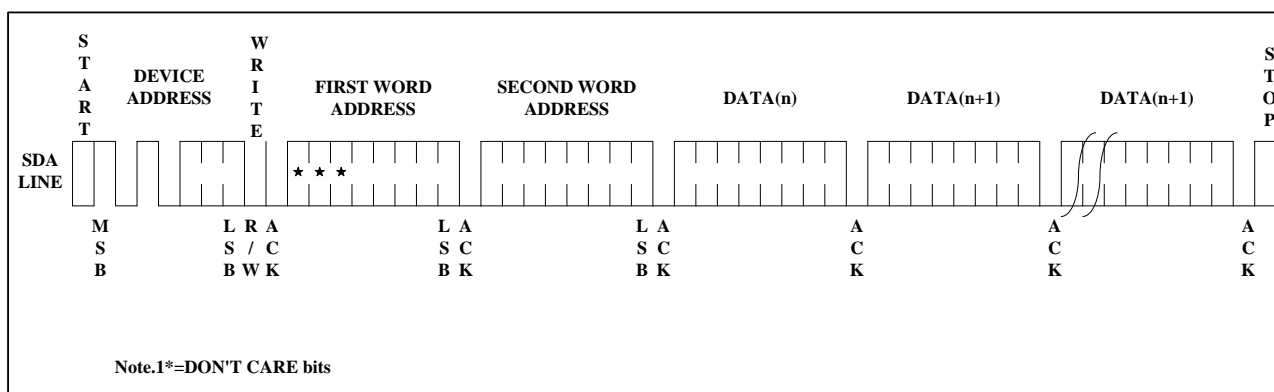

Figure 8. Page Write
**PAGE WRITE:** The Page Write mode allows up to 32 bytes to be written in a single Write cycle. A page write is initiated the same as a byte write, but the microcontroller does not send a stop condition after the first data word is clocked in. Instead, after the EEPROM acknowledges receipt of the first data word, the microcontroller can transmit up to 31 more data words. The EEPROM will respond with a "0" after each data word received. The microcontroller must terminate the page write sequence with a stop condition (see **Figure 8**).